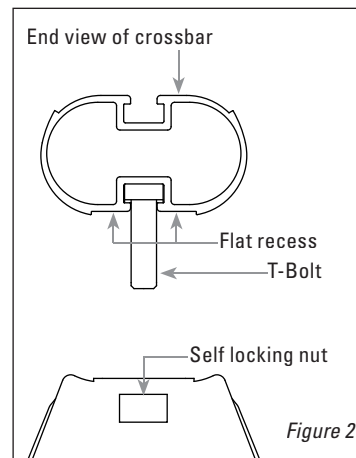

Figure 2
4. Now you're ready to attach the Crossbars (see Shim Installation, page 6, if shims are required on front and rear racks). Insert the heads of four 1 1/2" T-Bolts into the Crossbar Slot on the bottom of each Crossbar (the bottom is the side with the Flat Recess) (see Fig. 2). Slide 2 T-Bolts to the left side and 2 T-Bolts to the right.